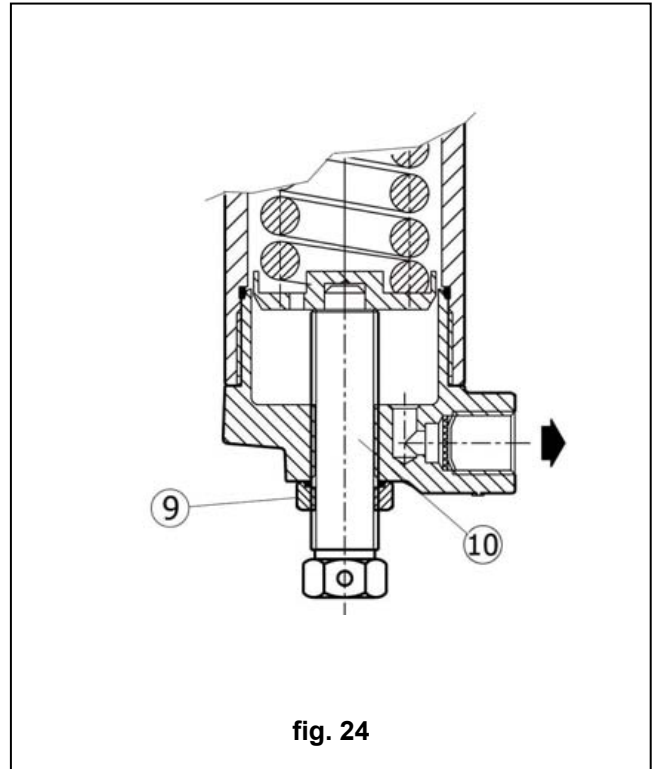

fig. 24
- 4) By means of the pressure gauge 5, check that the pressure does not exceed the maximum value permitted by the setting spring fitted in the pilot. If necessary suspend the operation by closing V1 and completely reduce the load of the spring by turning screw 10 anticlockwise (fig. 24). Reopen valve V1 slowly.
- 3) Completely increase the setting of the pilot 3 by turning the screw 10 clockwise (fig. 24).
- 15) Adjust the setting by alternately adjusting the regulating AR100 valve and the 30./... pilot so that the value of the set pressure is obtained with the minimum opening possible of the AR100 valve; then block the screw 10 of the pilot with the provided nut 9 (fig. 24).